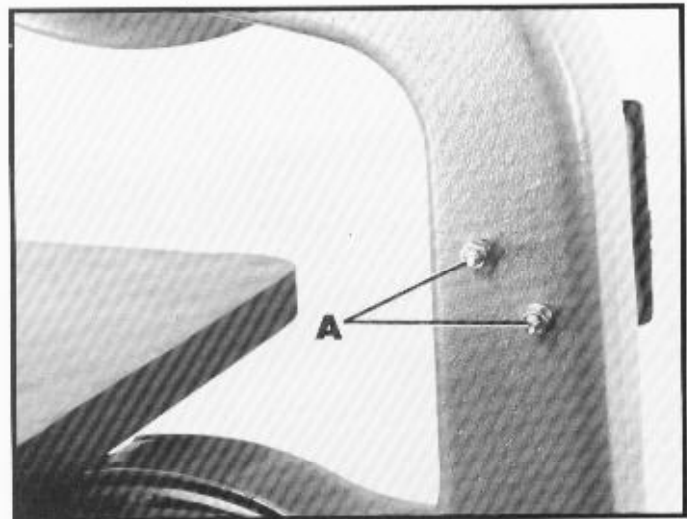

Fig. 9
5. Fasten the switch box to the band saw arm using two nuts and lockwashers (A) Fig. 9, which were removed in STEP 3.